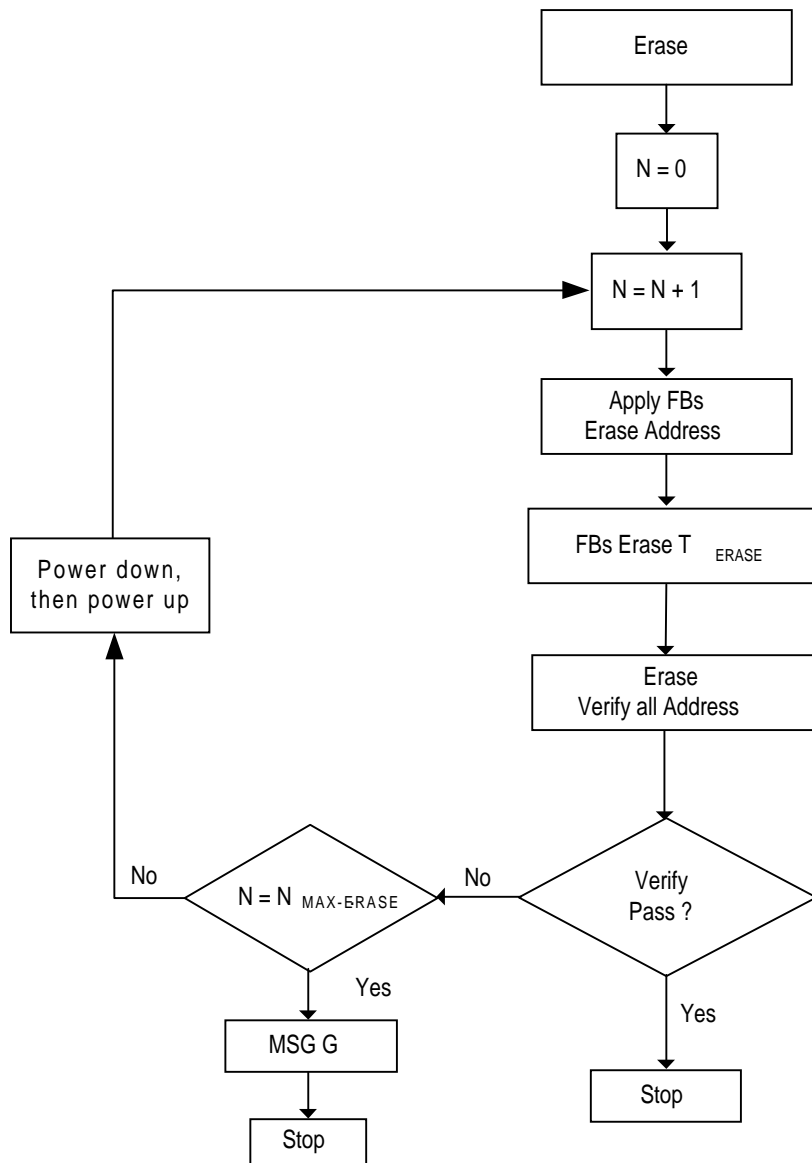
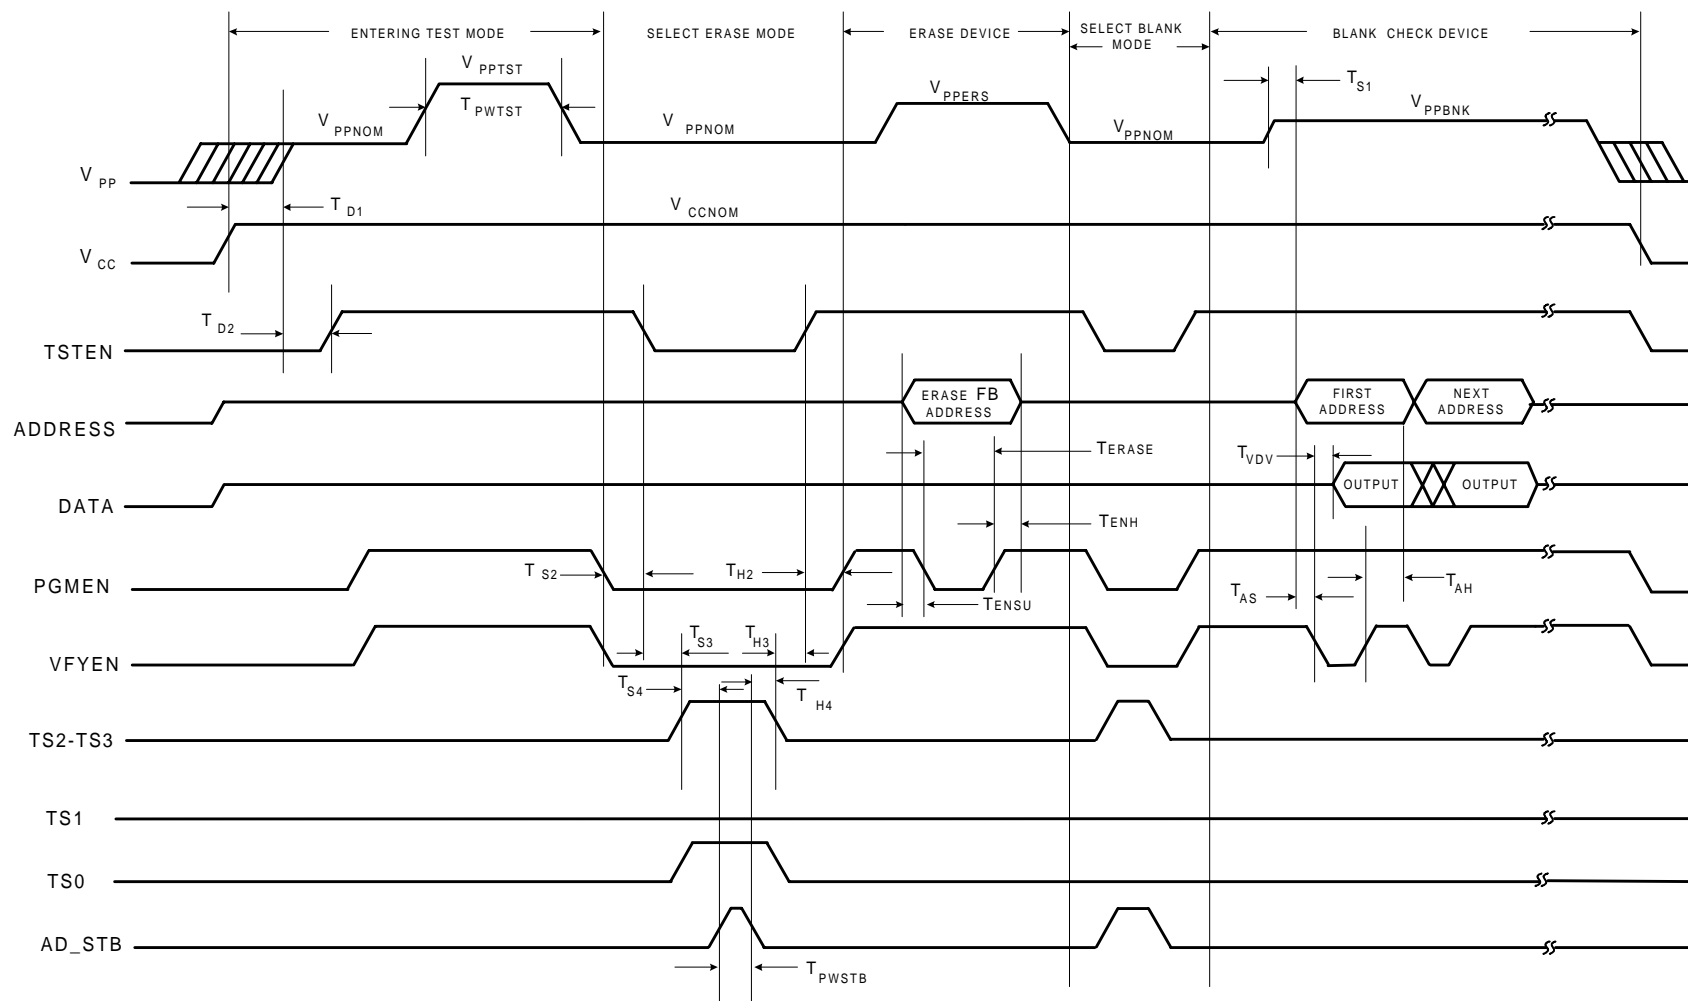

Figure 3. Erase Flow
Figure9. Erase
To erase the device, follow the flow in Figure 3 and the timing according to Figure 9. See the Add.dat file for the Function Block (FB) erase address. Erase the device with Vpp set to Vppers and then perform an erase verify with Vpp set to Vppbnk. If any bits failed to erase, a number of retries are permitted. The number of retries ($N_{\text{MAX-ERASE}}$) can be calculated using the following equation: